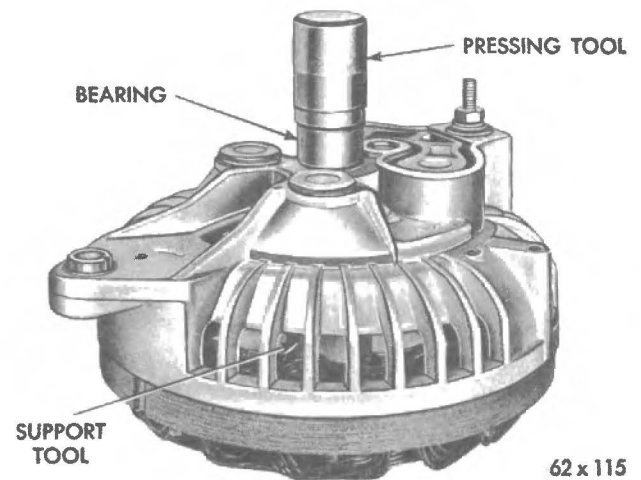

Fig. 43 - Installing rectifier end shield bearing (Tool CA-3770).
(5) Support the end shield on Tool CA-3770 so that the notch in support tool will clear the raised section of the heat sink and press the bearing into position with the drive Tool CA-3770 (Fig. 43).